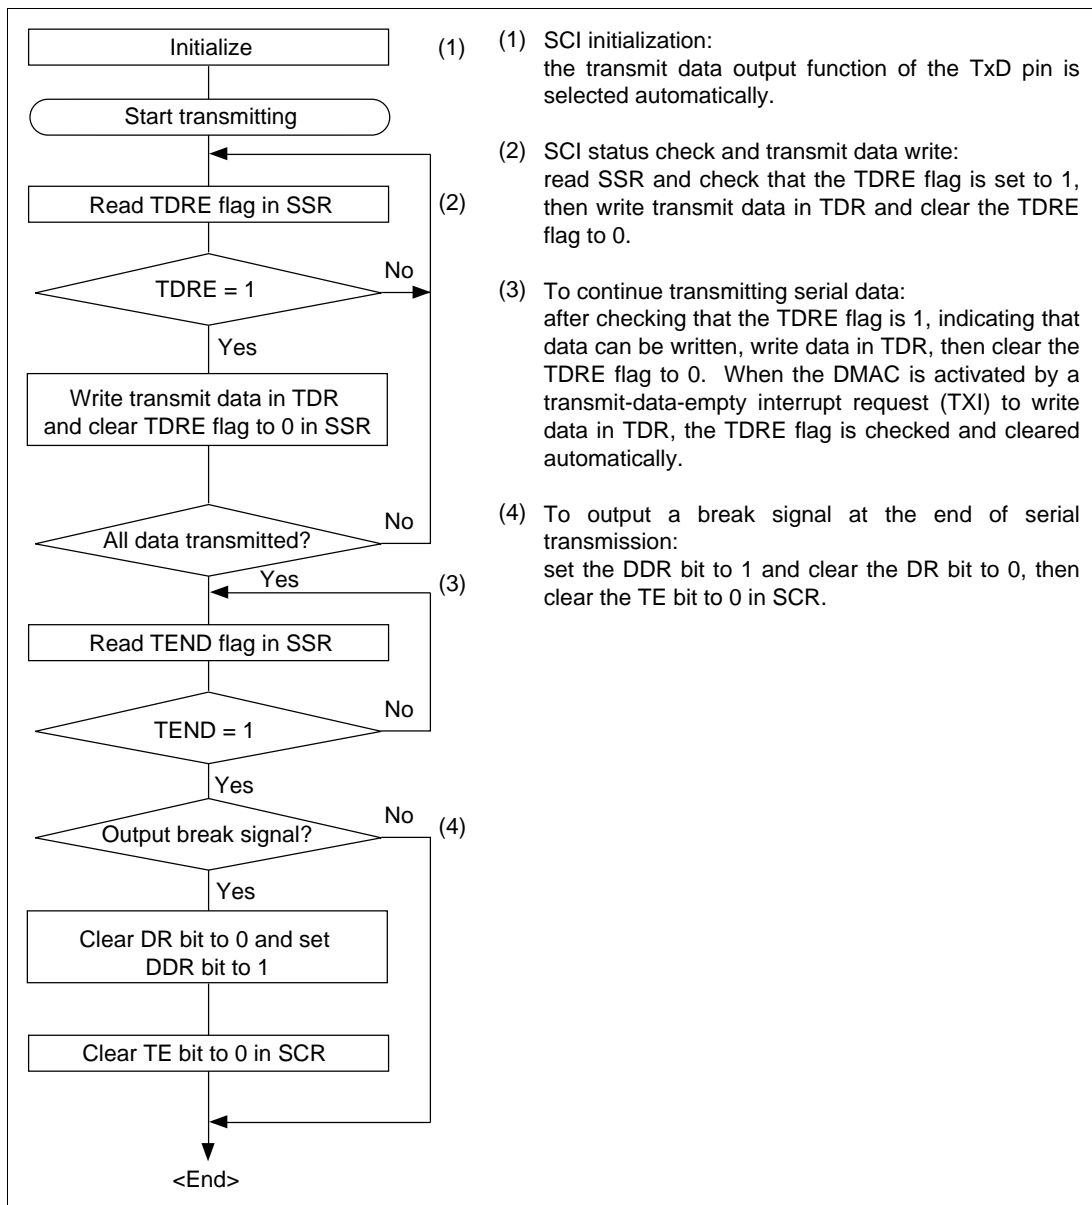

Figure 13.5 Sample Flowchart for Transmitting Serial Data
- **Transmitting Serial Data (Asynchronous Mode):** Figure 13.5 shows a sample flowchart for transmitting serial data and indicates the procedure to follow.